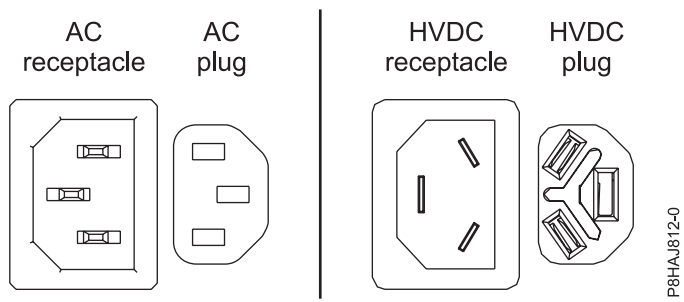
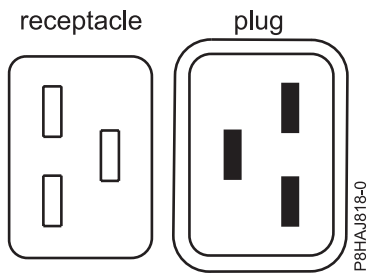
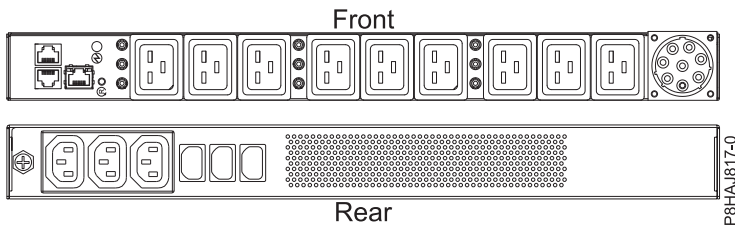

Figure 18. AC and HVDC connectors
Figure 19. Connectors for the 8408-44E system
Figure 20. PDU for the 8408-44E system
Figure 18 shows the supported alternate current (AC) and high voltage direct current (HVDC) connectors. Figure 19 and Figure 20 show the supported connectors and power distribution unit (PDU) for 8408-44E.